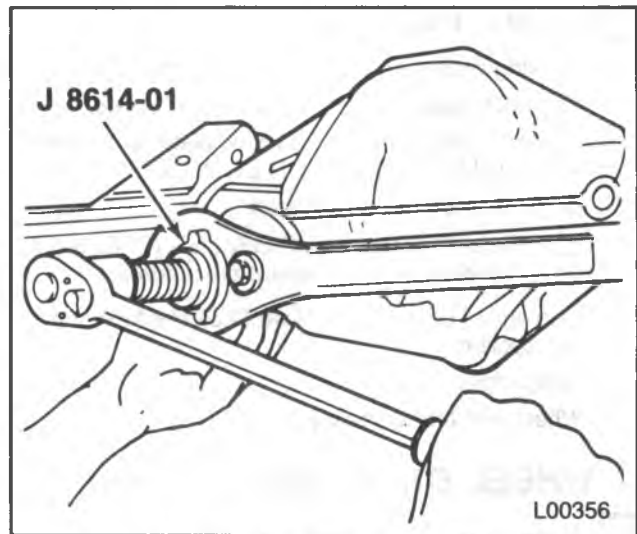

Figure 20 — Removing the Pinion Flange
- Use the special nut and forcing screw to remove the flange (figure 20).